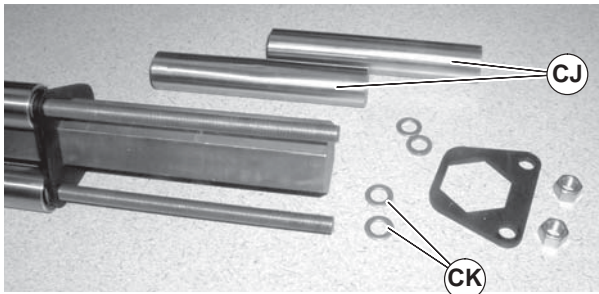

Figure 71
7. Remove pulleys (Figure 71, item CJ) and additional washers (CK).